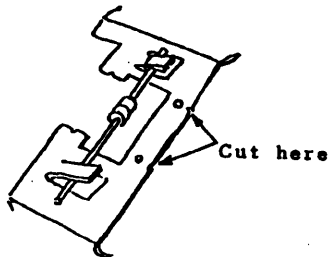

Figure 9
10. Cut the 3D upgrading plate as shown in figure 9.